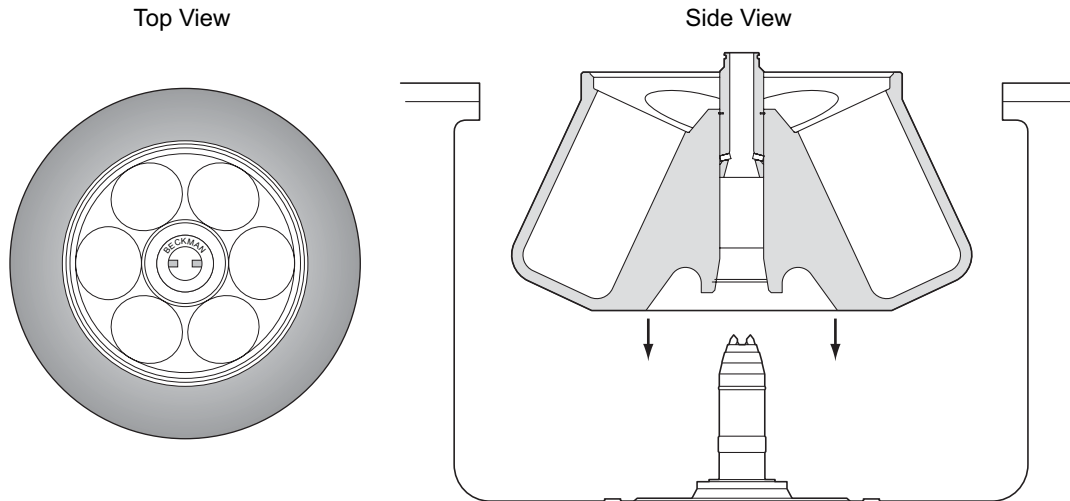

Figure 4. Installing the Rotor
The rotor pins are positioned parallel to the BECKMAN name engraved at the center of the rotor body (see Figure 4). Knowing the pin orientation before you install the rotor will help to ensure that you position the rotor properly on the hub, minimizing the chance of hub damage. Follow the steps below.
1. Turn the rotor until the BECKMAN name is either horizontal or perpendicular to the drive hub pins or teeth (see Figure 4). Alternately, rotate the drive spindle to align the hub pins or teeth with the rotor drive pins.